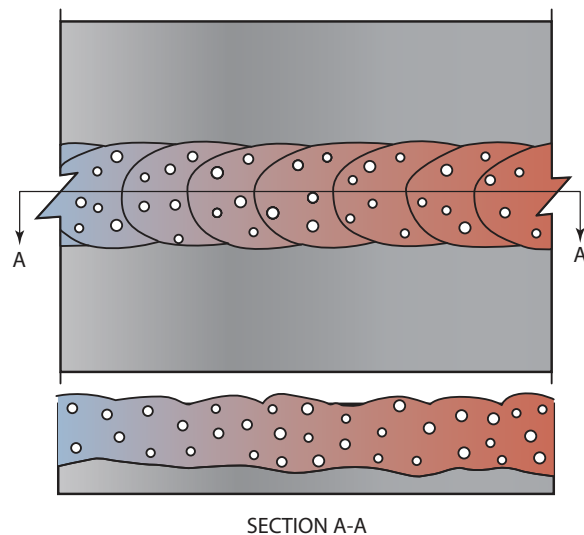

FIGURE 30-1 Uniformly scattered porosities.
- Uniformly scattered porosity is most frequently caused by poor welding techniques or faulty materials, Figure 30-1.